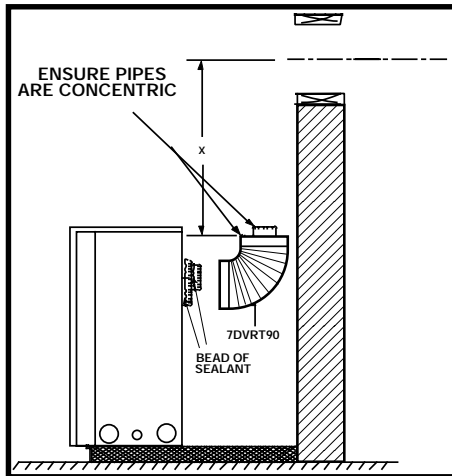

Fig. 26
(Fig.26) Apply a bead of high temperature sealant to the inner and outer flue collars of the fireplace and using appropriate venting component(s) attach to fireplace with three (3) screws. Follow with the installation of the inner and outer elbow. Again secure joints with three (3) sheet metal screws. Wipe off any excess high temperature sealant.